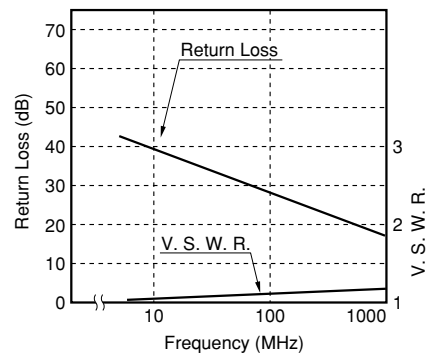

Figure 3.7 High-frequency characteristics
Figure 3.7 shows the performance of the UC2 and the UD2 series relays when a high-frequency signal is switched by the contacts of the relay. Figure 3.7 (1) shows the test circuit. Figure 3.7 (2) shows the isolation loss of the relay. Figure 3.7 (3) and Figure 3.7 (4) respectively show the insertion loss and return loss.